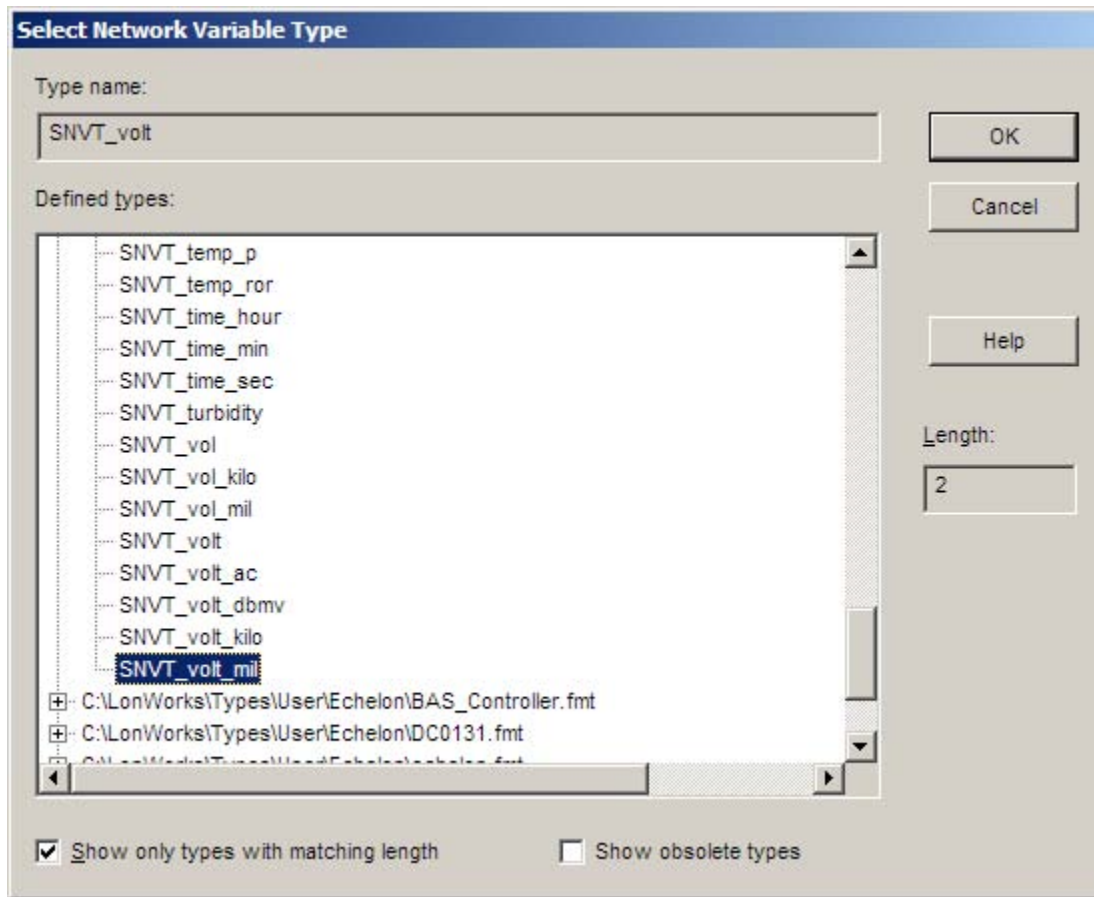

Figure 13. The Select Network Variable Type Dialog
6. In the Select Network Variable Type dialog, select either **SNVT_volt** or **SNVT_volt_mil** (if necessary, expand the tree view for **\LonWorks\Types\STANDARD.FMT**), as shown in **Figure 13** on page 72. Click **OK** to change the type and close the Select Network Variable Type dialog.